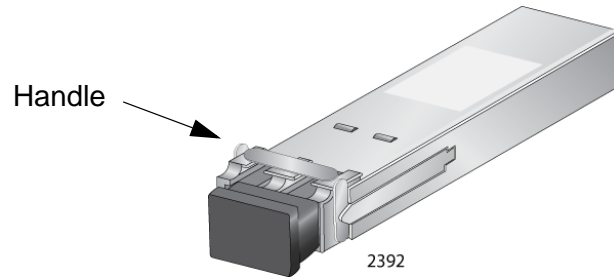

Figure 102. Handle on the XFP Transceiver
3. Orient the transceiver with the handle on top, as shown in Figure 102 on page 161.